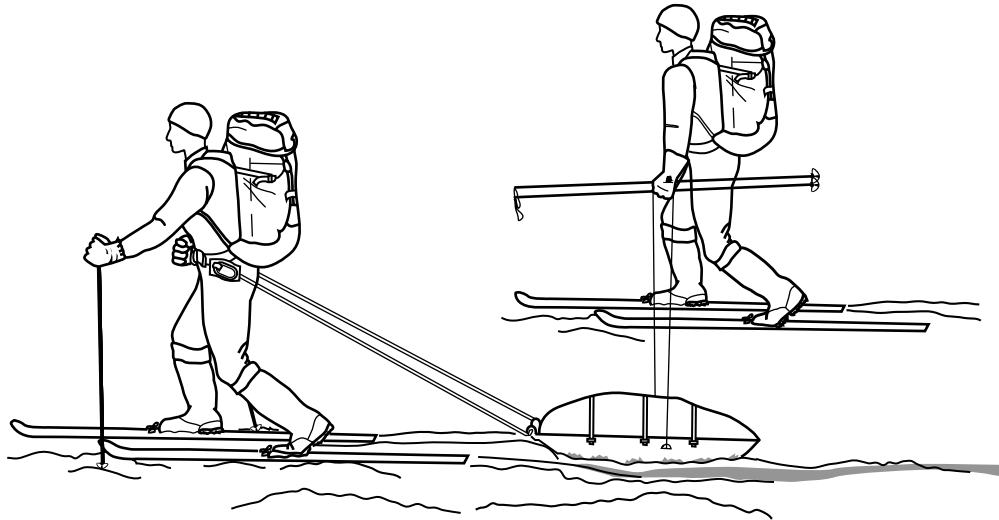

Figure 7-7. Traversing a Moderate Slope.
- Attach a trace to the sled when traversing a moderate slope. A Marine uphill from the sled attaches the trace from themselves to both sides of the sled to maintain balance and prevent the sled from sliding out, as shown in Figure 7-7.